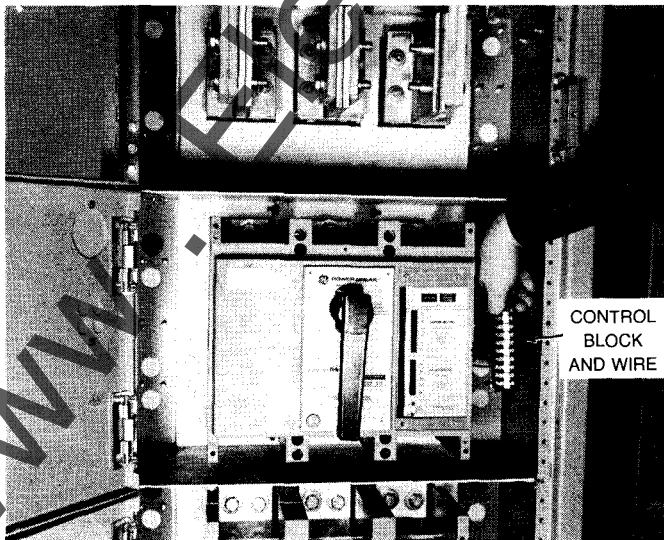

FIGURE 29.
3. Disconnect control wire, if present, from terminal block. (Fig. 29).